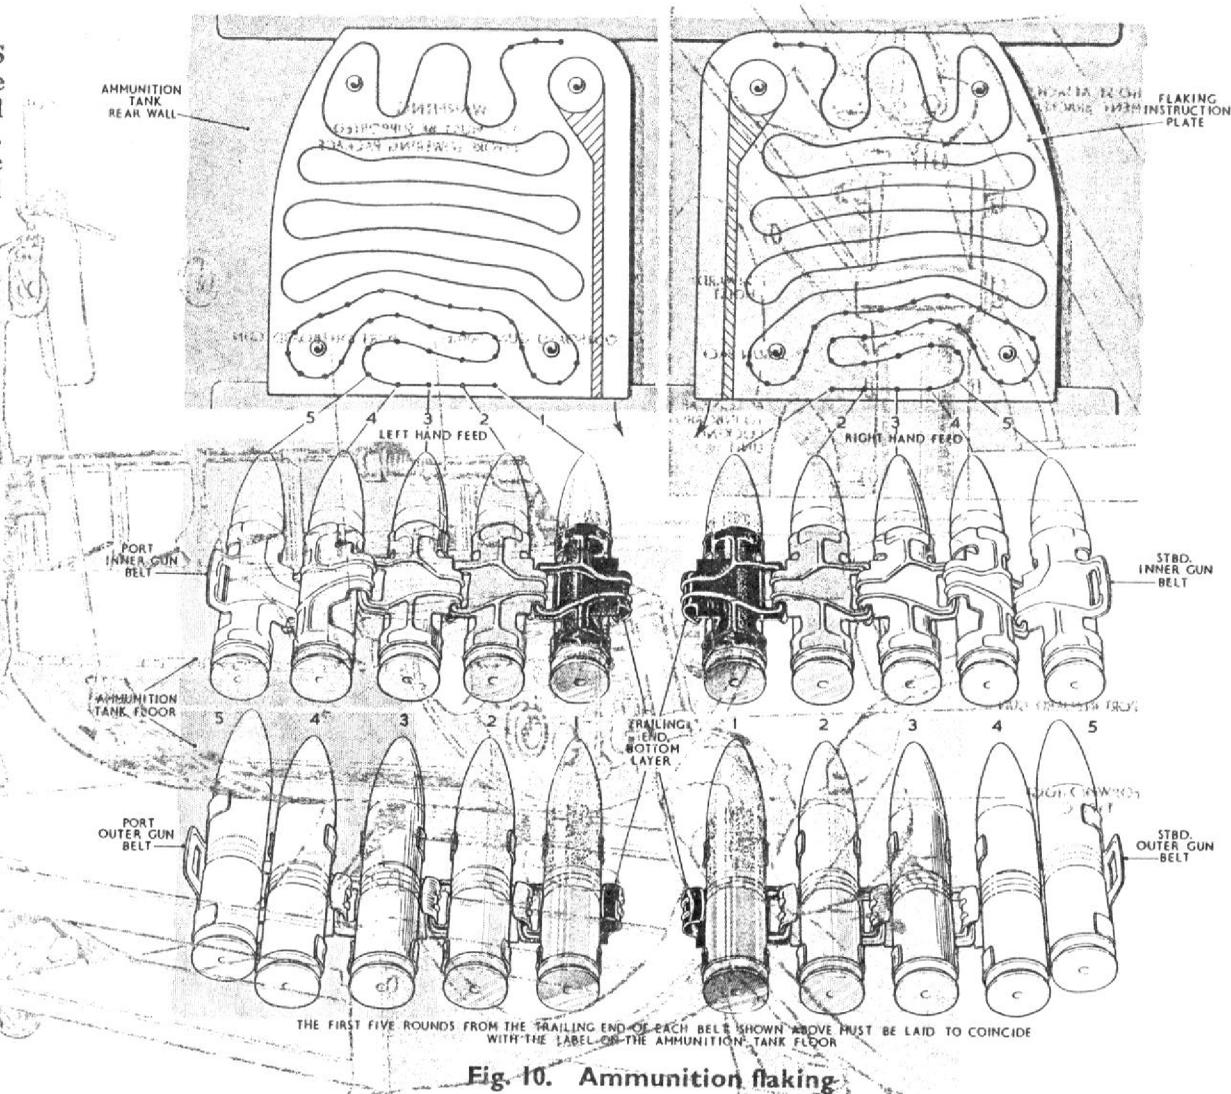

Fig. 10. Ammunition flaking
- (1) Remove the front and rear access panels of the package and load the ammunition tanks as required. Full instructions for making up belts of ammunition are contained in A.P.1641S, Vol. 1. The correct flaking sequence is shown in fig. 10 and flaking and loading instruction plates are also contained in the ammunition tanks.
- (2) When the ammunition tanks have been filled but before the top layer of ammunition is finally positioned, the leading edge of the belt, that is the end with the loop, is inserted into the chute until it passes through the chute, enters the mouth of the feed mechanism and is positioned against the sprocket.
- (3) Load the gun as laid down in A.P.1641S, Vol. 1.
- (4) The top layer of ammunition can now be laid in position so that the lid of the ammunition tank, when closed, does not foul the ammunition.
- (5) Repeat the loading sequence for the remaining guns, replace the front and rear access panels and ensure that the ammunition tank lids are securely locked.